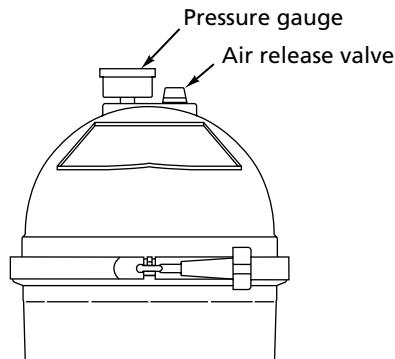

Figure 3
- Attach pressure gauge and air release valve as shown in Figure 3. Apply Teflon tape, Plasto-Joint Stik or Silastic RTV#732 to threads of pressure gauge.